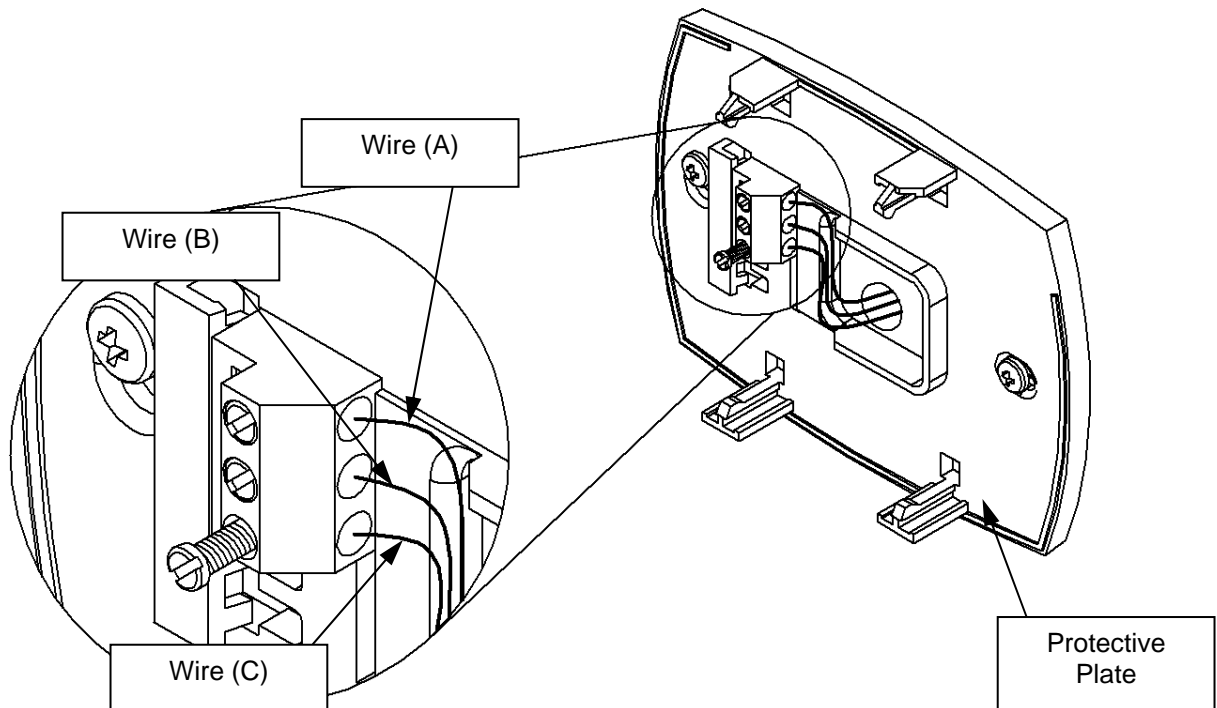

Figure 98
Step 18: Using wire (C), insert one end into the bottom terminal location on the Protective Plate. This is shown in Figure 98.